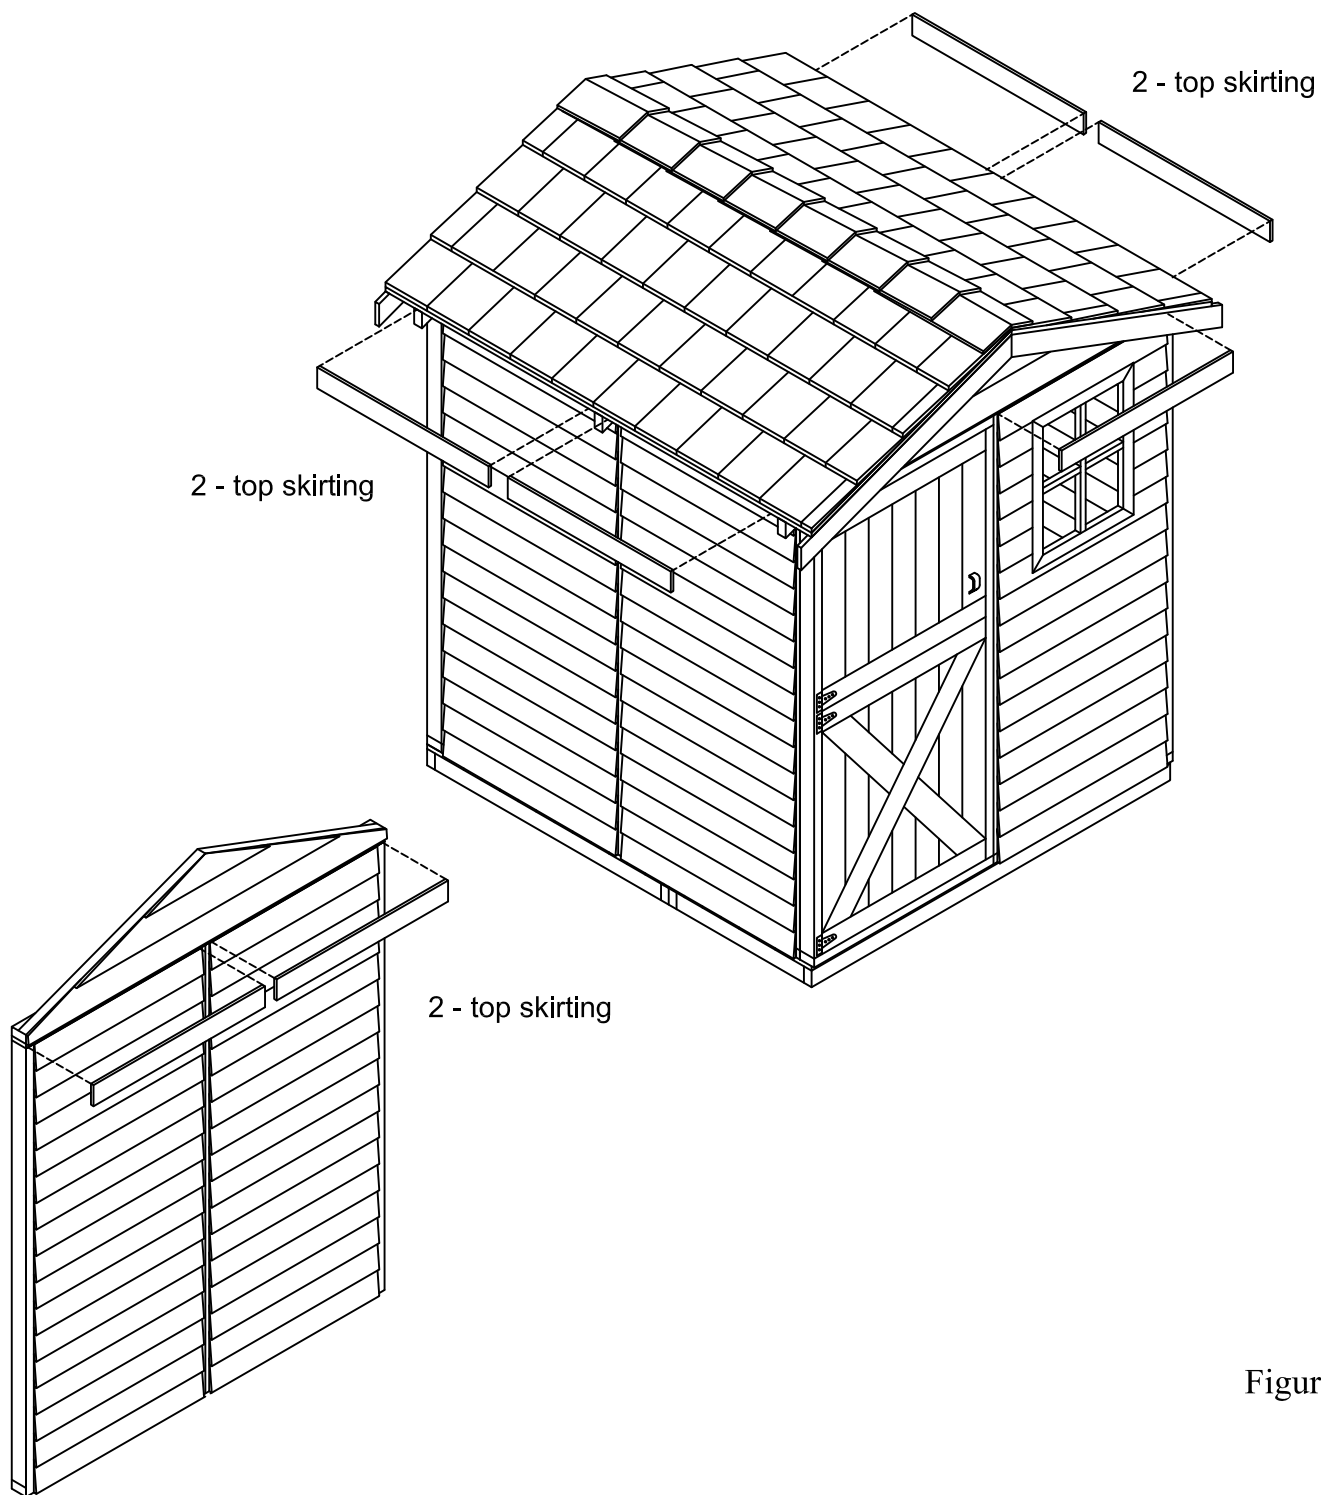

Figure E3
2. Using 1 3/4" finishing nails, complete top skirting assembly as shown in "Figure E3". There should be 7 top skirting pieces.